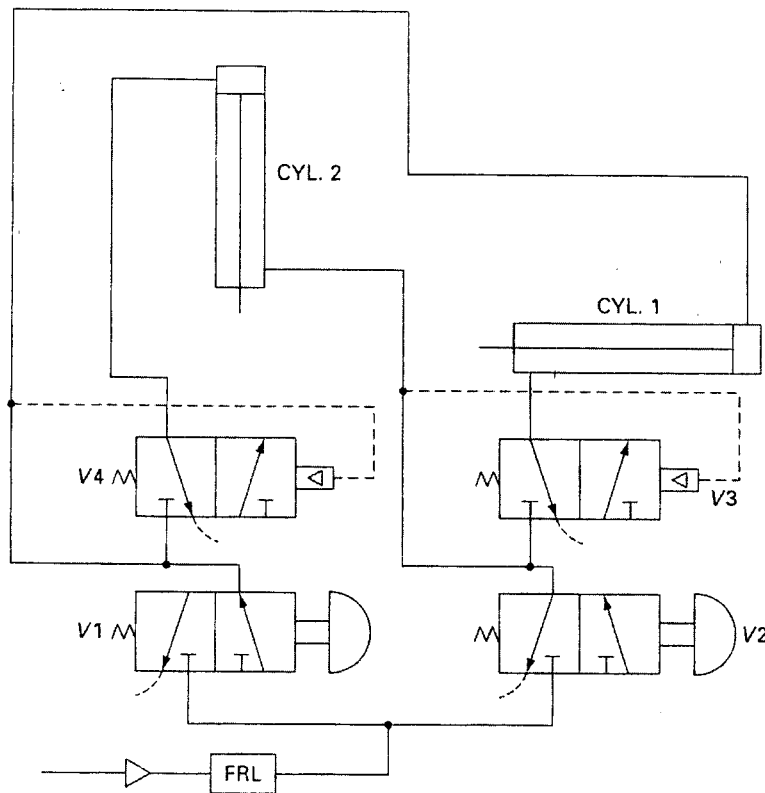

Figure S6.2
- b) Refer to Figure S6.2. Cylinder 1 will not hold a load when cylinder 2 is retracting. Modify the circuit by adding a pilot check valve and appropriate piping so that cylinder will hold even though cylinder 2 is at retract position. (10 marks)